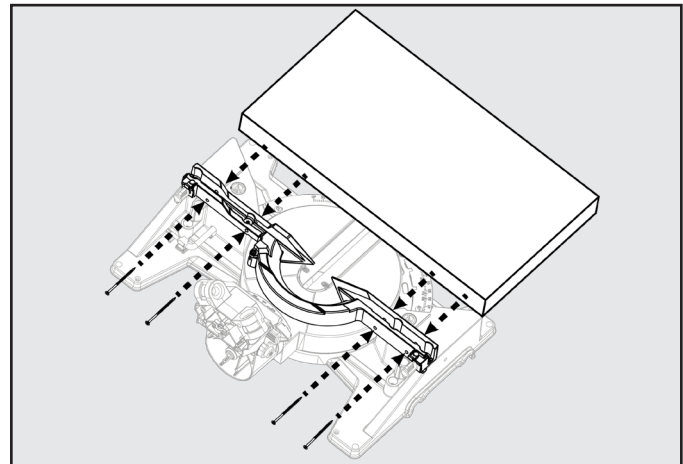
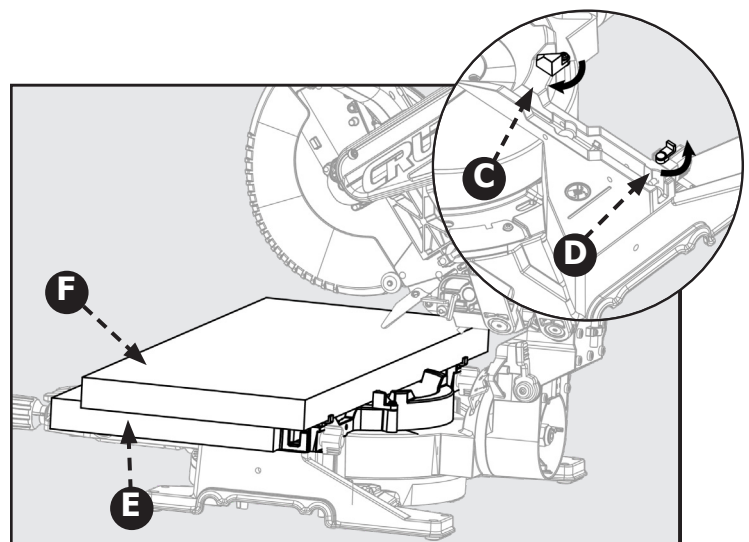

Figure 28
Figure 29
2. Flip the support tabs (C & D) into position. Tabs (D) are on both the left and right sides of the lower (fixed) fence. Tab (C) only exists on the right side of the lower (fixed) fence. These will function as your workpiece backstop. See Figure 29.
3. You will need to add an auxiliary table board to (E) support your large capacity workpiece (F). Place the 2" x 12" auxiliary table board (E) onto the saw table and against the lower (fixed) section of the saw fence. Make sure the board is securely positioned against the lower (fixed) fence.
NOTE: Use wood screws to secure the auxiliary table board (D) to the lower (fixed) fence. See Figure 28.